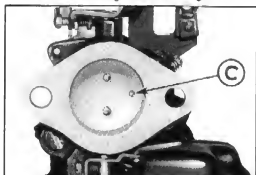

Fig. 10—Correct Assembly of Throttle Valve
- If the throttle valve has been removed, care must be used to make sure the letter "C" stamped on the valve is toward the idle port when reassembling as shown in Fig. 10.